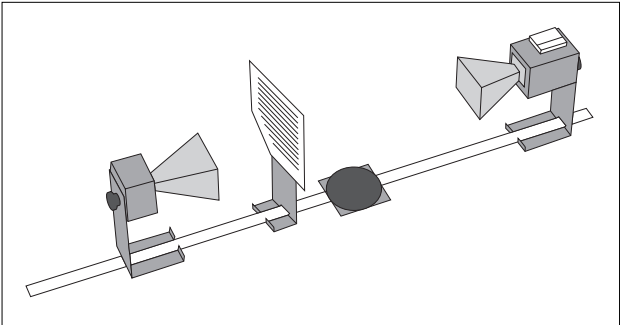

Figure 5.4 Equipment Setup
- ④ Set up the equipment as shown in Figure 5.4. Reset the Receiver's angle to 0-degrees (the horns should be oriented as shown with the longer side horizontal).
- ⑤) Record the meter reading when the Polarizer is aligned at 0, 22.5, 45, 67.5 and 90-degrees with respect to the horizontal.
- ⑥ Remove the Polarizer slits. Rotate the Receiver so the axis of its horn is at right angles to that of the Transmitter. Record the meter reading. Then replace the Polarizer slits and record the meter readings with the Polarizer slits horizontal, vertical, and at 45-